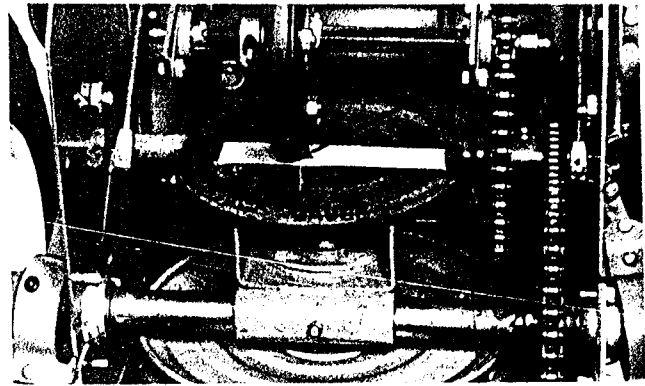

Figure 37
6. Slide a 3/32 inch gauge between rubber wheel and friction disc (Fig. 37). If there is too little or too much clearance, repeat steps 1 - 4. If clearance is as specified — 3/32 inch — install rear shield with four thread forming screws.